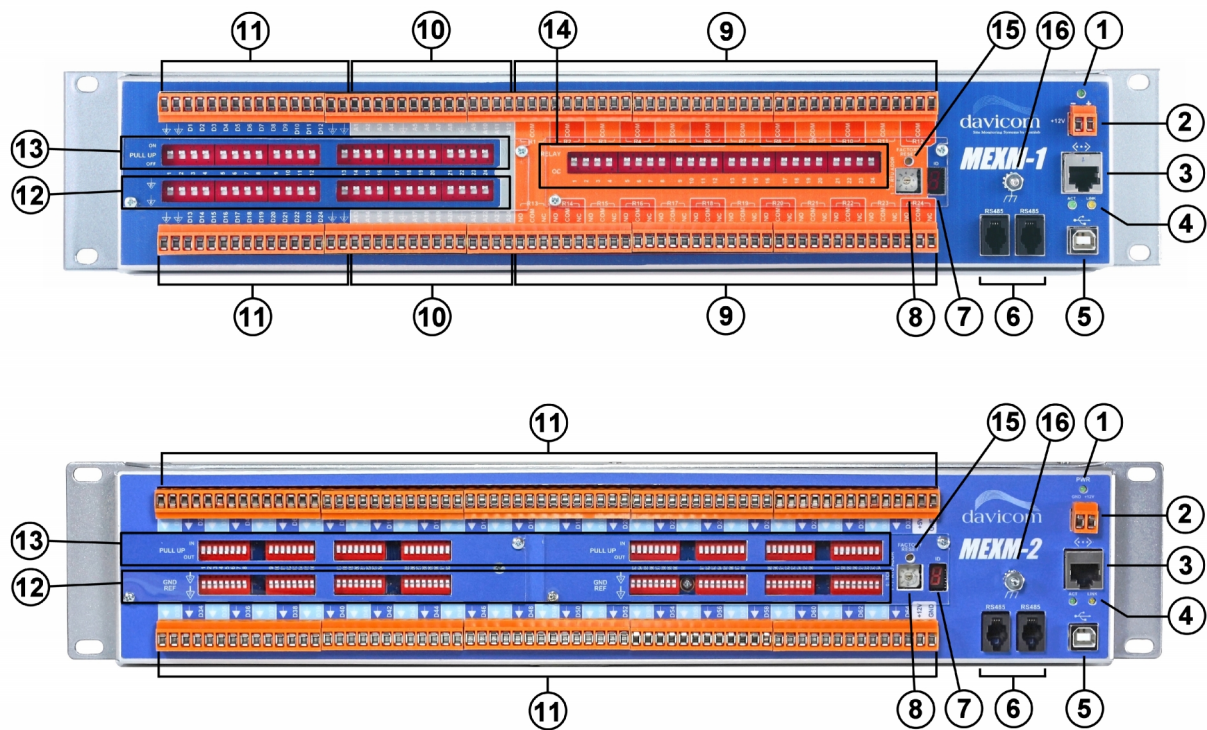

Figure 1 : Connectors on the MEXM-1 and MEXM-2 rear panel
Figure 1 describes the two MEXM models that are currently available (the MEXM-1 and MEXM-2). **Table 1** shows how many analog (metering) , digital (status) and relay I/Os are available on each model.
Set the TCP/RTU communications-mode selector switch to position 0 (item 8 in **Figure 1**) to configure a MEXM for TCP. The default parameters for the MEXM are shown in **Table 3**.
To completely restore factory default parameters, press and hold the Factory Reset Button (item 15 in **Figure 1**) until the 7-segment LED display blinks 3 times.